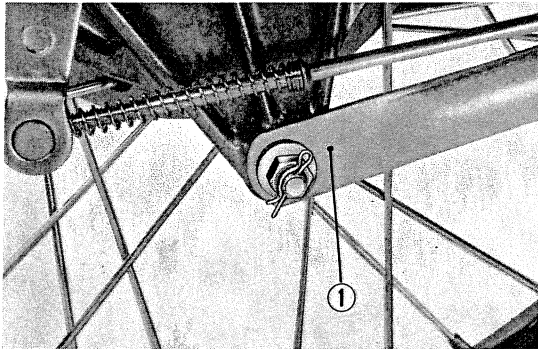

Fig. 117 Brake stopper arm installation
- 6) Mount the rear brake stopper arm on the rear brake panel. (Fig. 117)